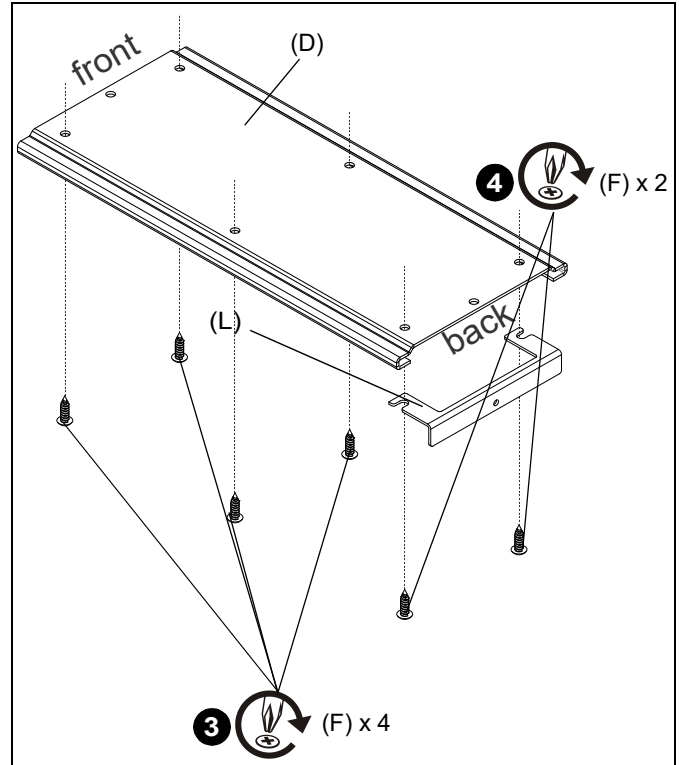

Figure 3
3. Use two #8 x 5/8" wood screws (F) to secure under-desk track (D) to desk. (See Figure 3)
4. Install back guard (L) with four #8 x 5/8" wood screws (F). (See Figure 3)